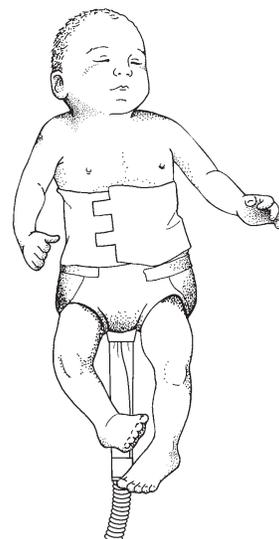

**Figure 2-2**
6. Lay the covered light pad on the mattress or other flat surface with illuminating side (side without label) facing up. Place the infant's back or chest directly on the white side of the pad with the tip of the pad at the baby's shoulders and the pad's cable at the infant's feet. See Figure 2-2. Ensure that: